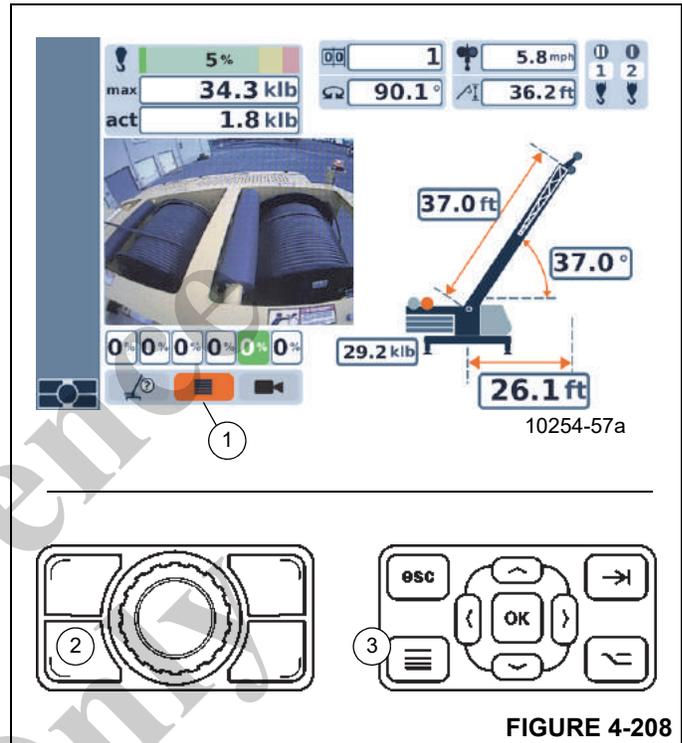

FIGURE 4-208
The full screen view of the hoist camera is enabled in the Menu Screen of the RDM. The operator can access the Menu Screen from the Main Screen by selecting and confirming the Menu Icon (1 Figure 4-208), or by pressing the Menu Button at the Jog Dial (2) or the RDM Navigation Control Pad (3).